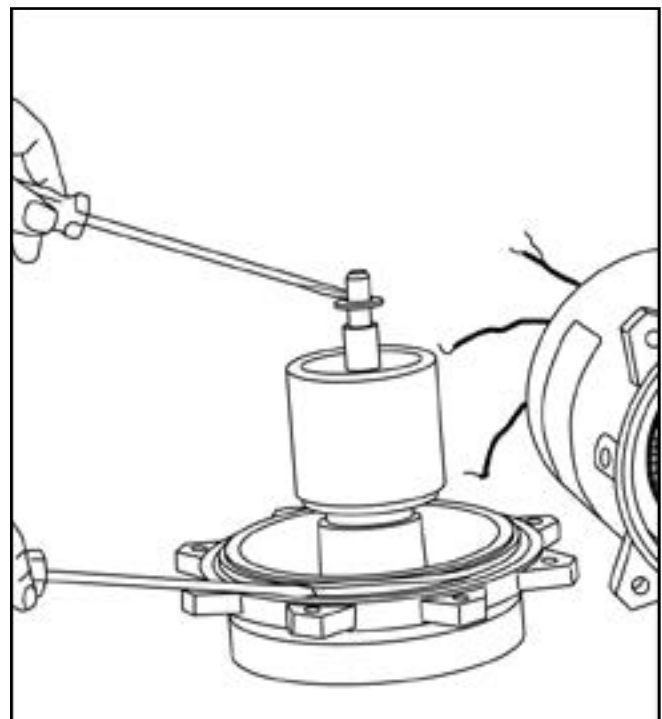

FIG. 25
12. In reassembly, be sure rubber seal ring and thrust washer are in place as shown. Fig. 25